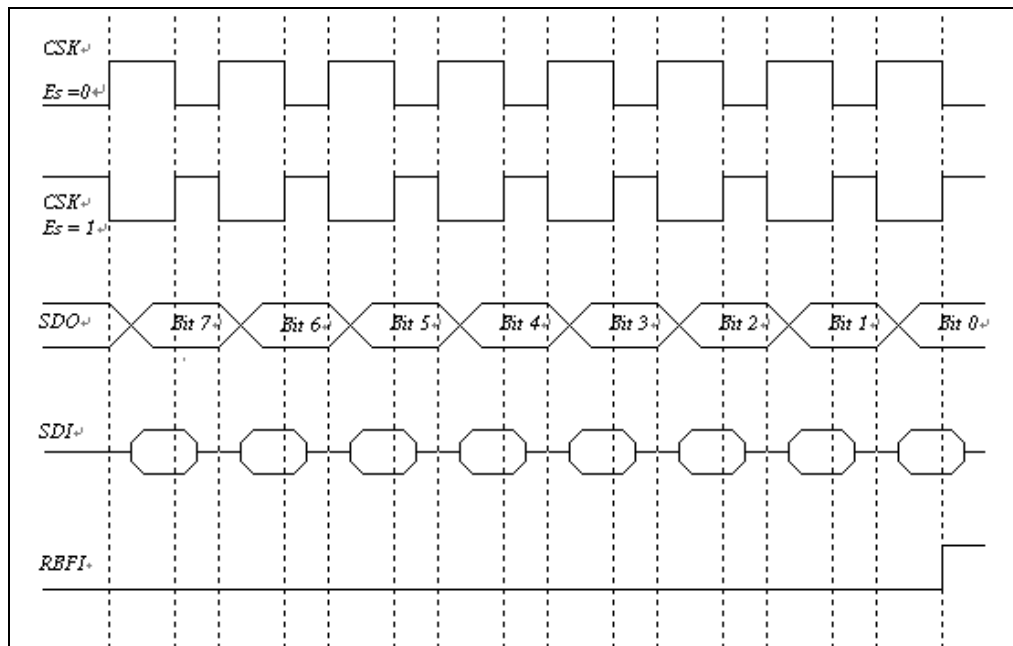
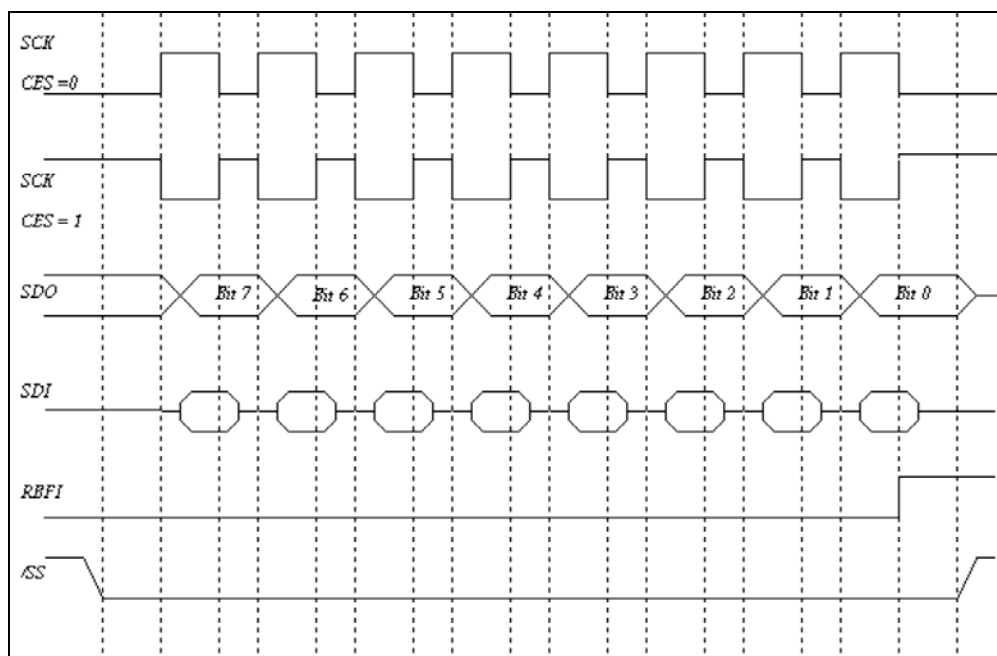

Figure 6-10a SPI Mode with /SS Disabled Timing Diagram
Figure 6-10b SPI Mode with /SS Enabled Timing Diagram
- Timing is as shown in Figures 6-10a and 6-10b below.
The SCK edge is selected by programming bit CES. The waveform shown in the above figure (Figure 6-10a) is applicable regardless whether the EM78P507N is in Master or Slave mode with /SS disabled. However, the waveform in the following Figure 6-10b can only be implemented in Slave mode with /SS enabled.